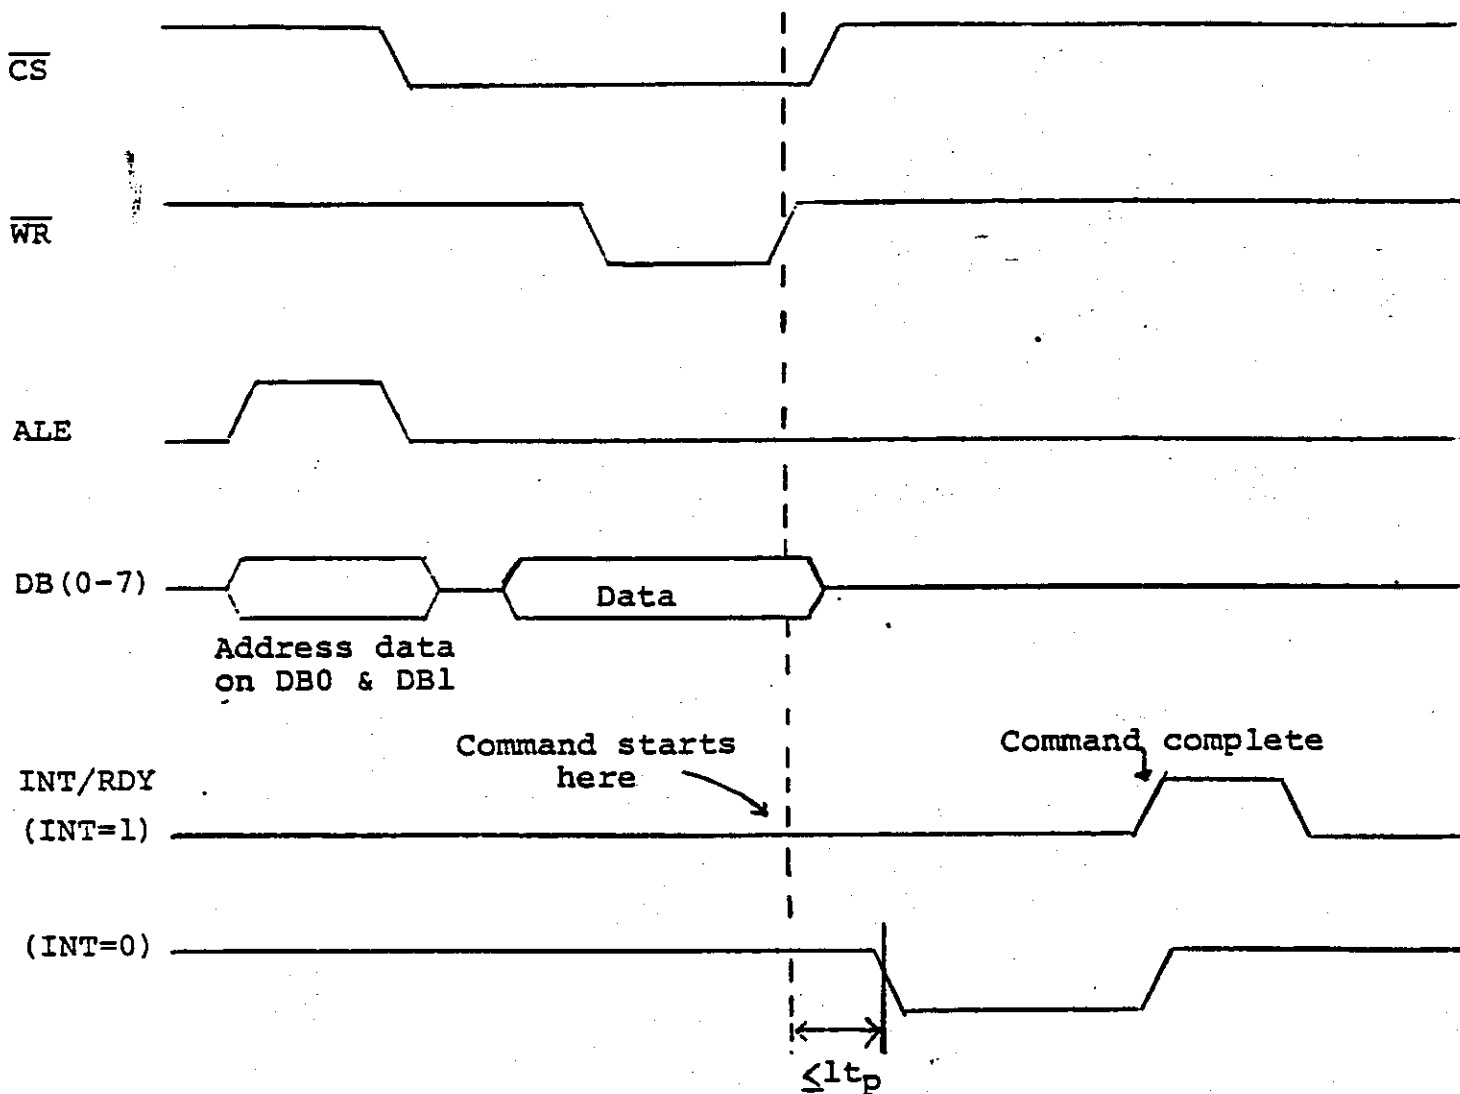

Figure 10. INT/RDY Pin Timing
- c. Select INT/RDY pin function. If INT bit = 1, the INT/RDY pin will issue a single clock pulse wide interrupt pulse at the completion of all commands. If INT bit = 0, the INT/RDY pin will function as a Ready pin. In the READY mode, the INT/RDY pin will go low (logic 0) immediately upon receipt of a command and return high (logic 1) when the command has been completely executed (see Figure 10).